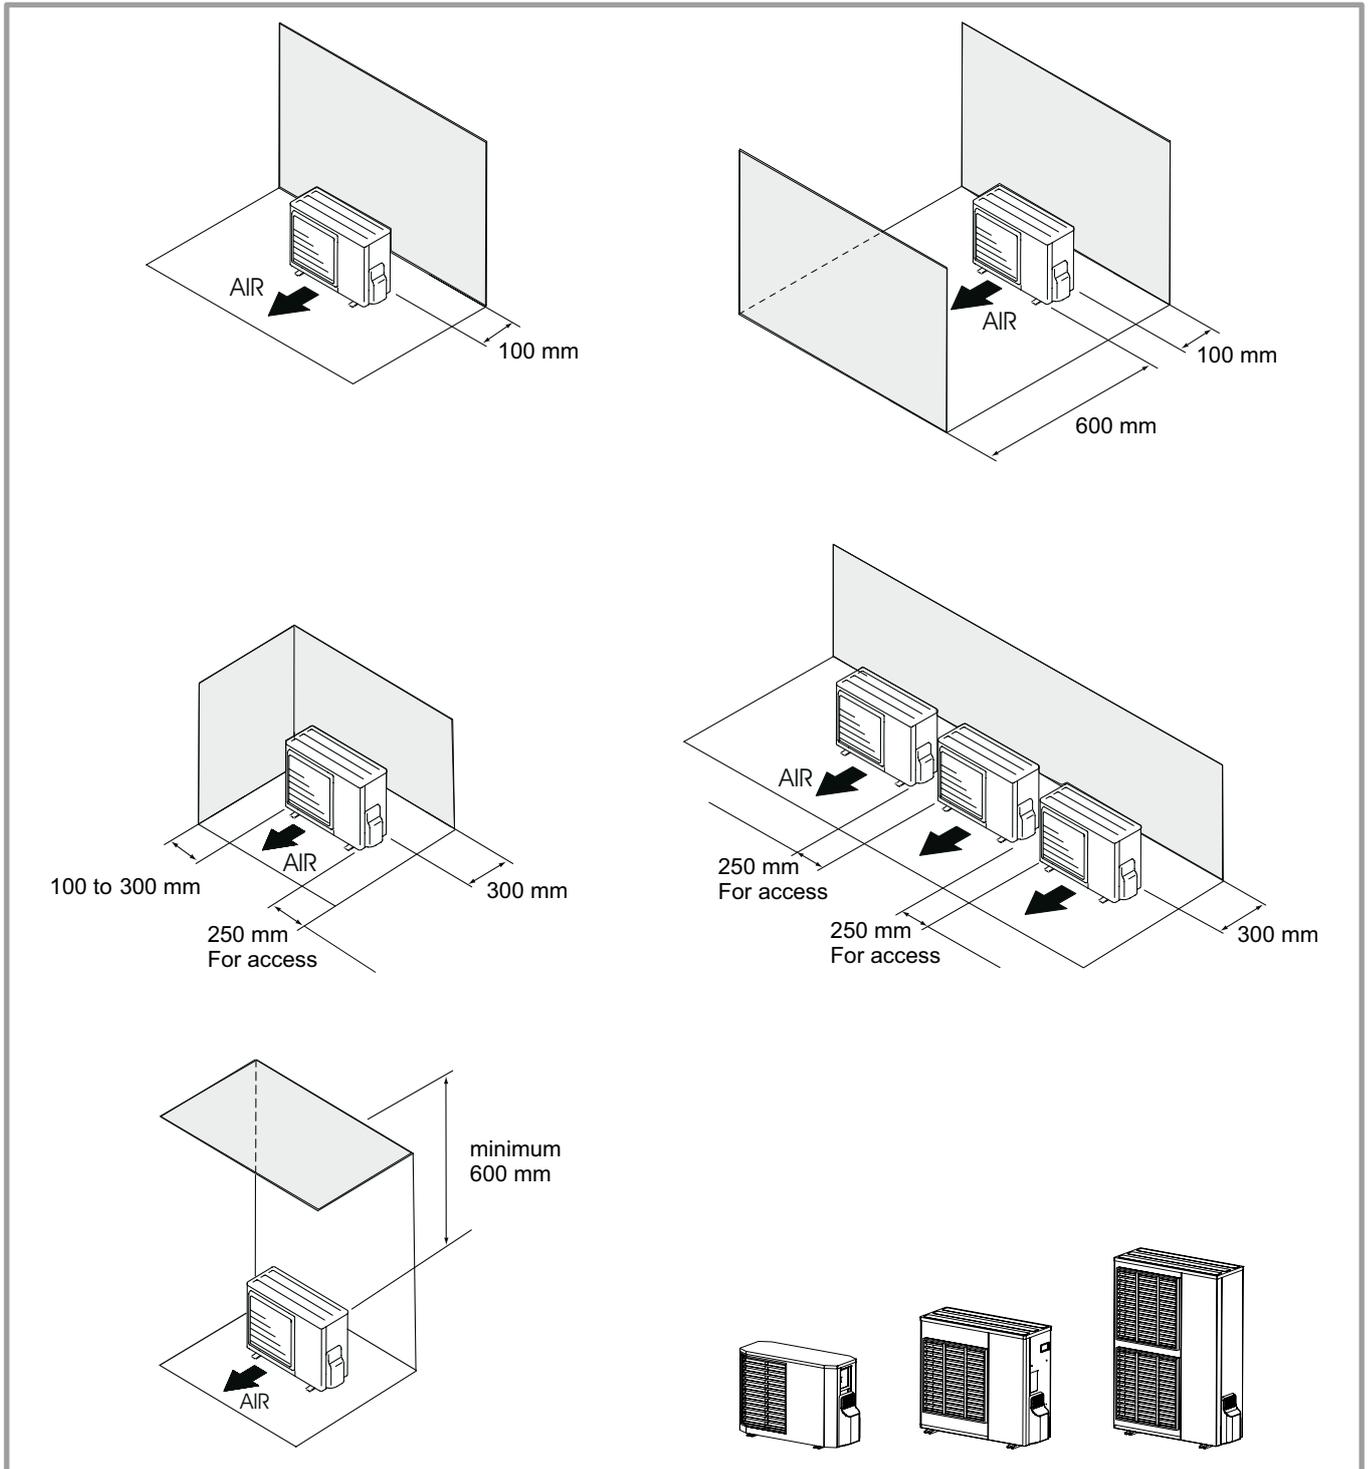

figure 12 - Minimum installation clearances around outside unit (all models)
- Water may drain away from the outdoor unit when it is operating. Do not install the appliance on a paved terrace; choose a well-drained place (e.g. gravel or sand). If the installation is in an area where the temperature can be lower than 0°C for a long period, check that the presence of ice does not present any danger. A drainage pipe can also be connected to the outdoor unit (see figure 12, page 14).
The outdoor unit must be raised at least 50 mm above ground level. In areas prone to snow, this height should be increased but should not exceed 1,5 m (figure 12).
(see figure 12).